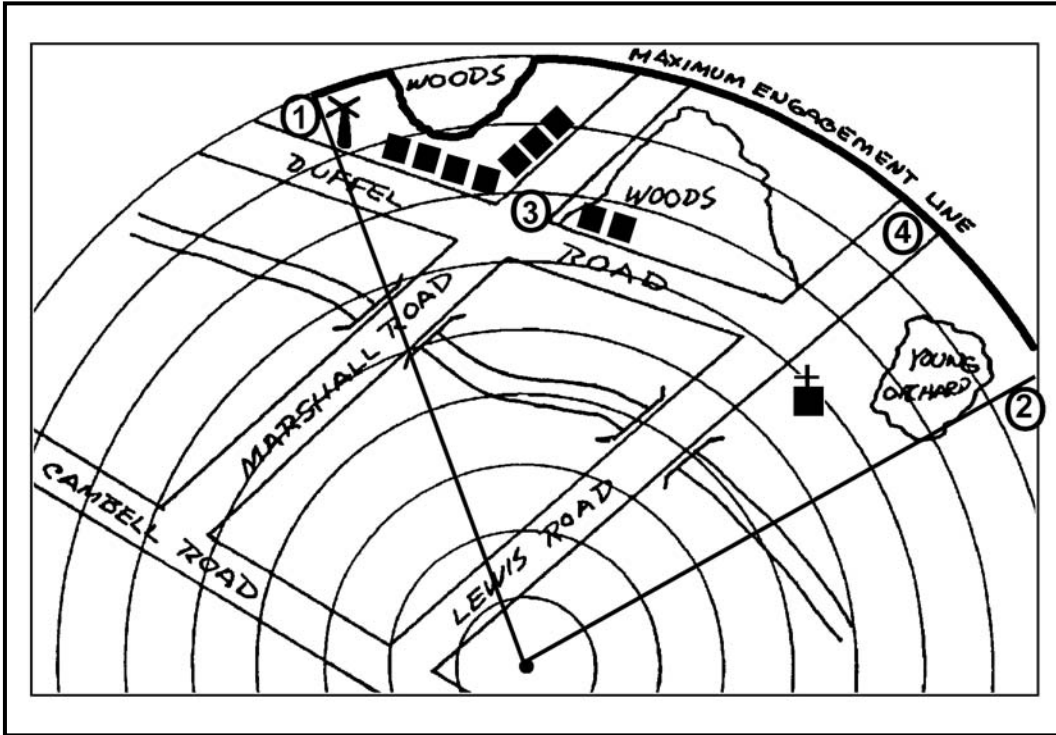

Figure D-5. Numbered target engagement locations.
d. Number the anticipated target engagement areas (ATEAs) from left to right, starting with number 3. Place a number at the maximum engagement range of the target on the range card and circle the number (Figure D-5, page D-6).